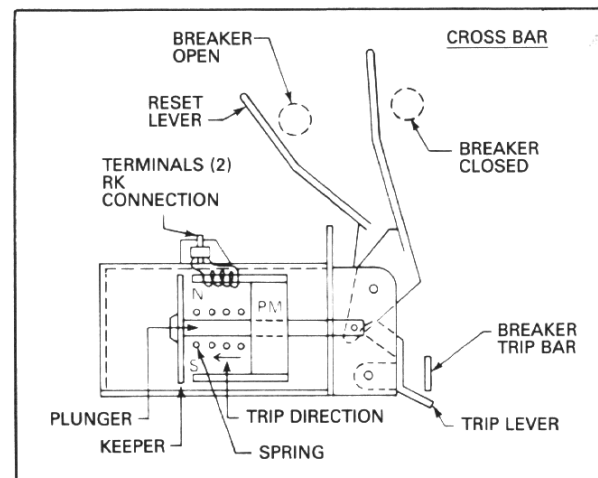

Fig. 2. Actuator Diagram
When the actuator receives a tripping current from the RK, it releases a mechanical force to trip the breaker. The actuator is made up of a permanent magnet and a spring (see Fig. 2). When the breaker is open, the cross bar pushes the reset lever. The reset lever moves the plunger out, and the plunger then compresses the spring and pulls the keeper until it contacts the pole pieces of the magnet. Although the magnet cannot pull and reset the keeper against the force of the spring acting on the plunger, it can hold the spring force when the keeper is in contact with the magnet. A tripping current from the RK unit counteracts the effects of the permanent magnet allowing the spring to separate the keeper from the magnet and move the plunger to actuate the trip lever.
3. Operate the actuator a few times. Alternately pull back on the reset lever (see Fig. 2) and then trip by applying 28 Vdc (be sure to use correct polarity) to the terminals.